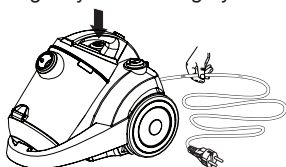

Figure 7
- ⚠ Guide the power cord whilst it rewinds onto the reel, since otherwise the cord could become tangled or the plug could strike the back of the appliance. Take hold of the power cord near the mark, and allow it to gently slide through your fingers back into the appliance, see Figure 7.